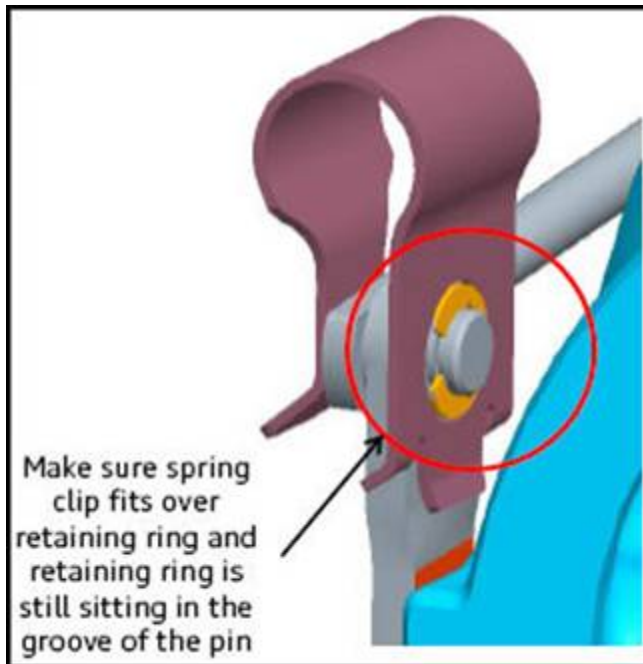

Figure 6
2. Clip capture area, ensure clip fits in groove as seen in figure 6.